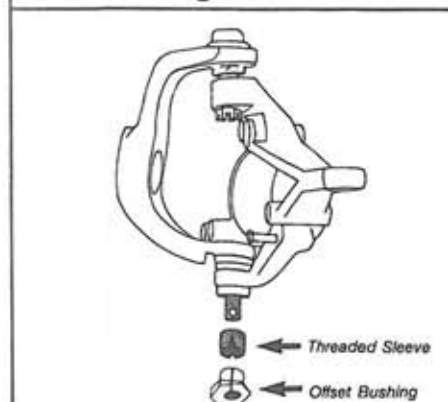
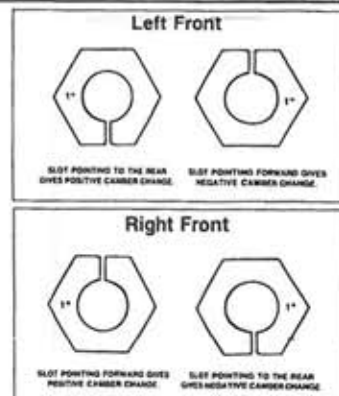

Figure 2
Figure 3
6. **INSTALL THE NEW THREADED SLEEVE UNTIL FLUSH, (Do not thread more than 1/8 turn beyond flush)** and insert the hex head offset collar into the threaded sleeve. (See figure 2.) For bushing position, to achieve positive or negative camber change, refer to Figure 3. **NOTE: OUR NEW BUSHING ASSEMBLY HAS A POSITIVE LOCKING FEATURE WHICH ALLOWS THE SMOOTH TAPERED BUSHING TO SNAP INTO THE THREADED SLEEVE WHEN PROPERLY INSTALLED — THIS LOCKS THE 2 PIECES TOGETHER AND PREVENTS ANY UP AND DOWN MOVEMENT FROM TAKING PLACE.**
- 7)..... Press out lower ball joint using press and **optional adapter set** or equivalent. (**Fig. 3**)